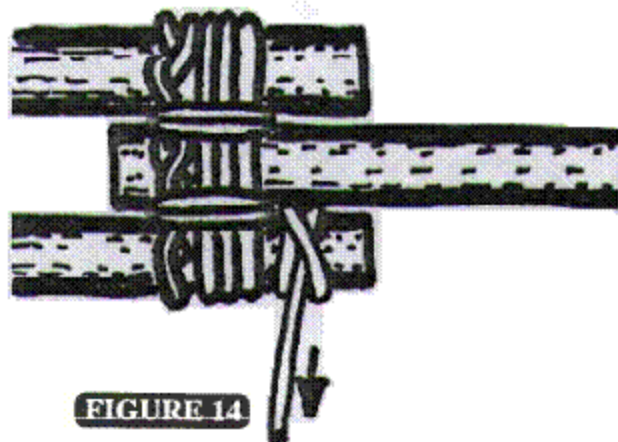

FIGURE 14
3. Now make two (2) FRAPPINGS between the SPARS and finish off with a CLOVE HITCH on the center SPAR (see FIGURE 14).